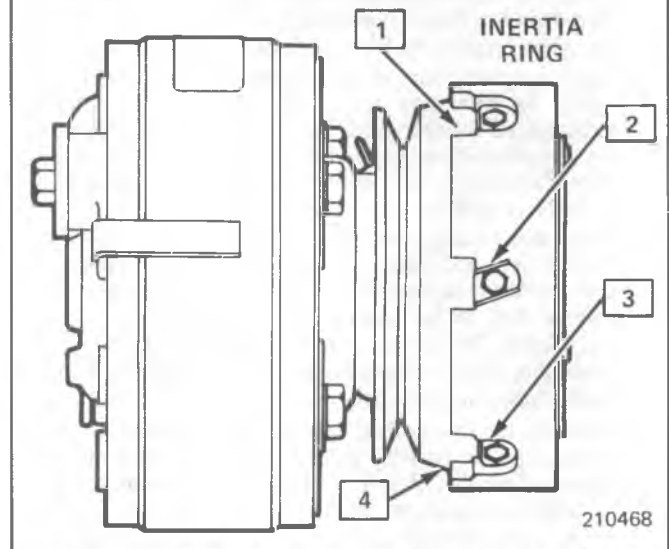

Fig. 1C1-25 Pulley Rim and Inertia Ring Mounting Detail
8. Lock the three (3) screws in place by flattening the special washer against two sides of the hex head screw using vise grip pliers and one portion of the lockwasher bent down over the edge of the inertia ring slot, Fig. 1C1-25. Do not move the screw heads from the torqued position. Locking of the screws must be similar to the production forming of the lockwasher in order to effectively retain the screw.